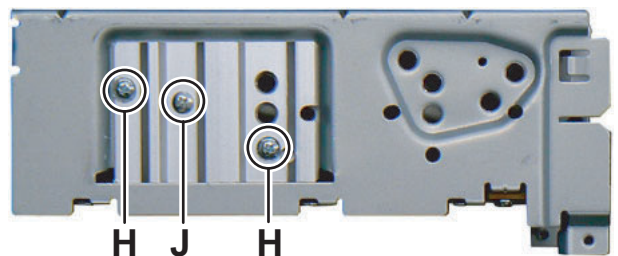

Fig.4
3.1.3 Removing the Electric unit (See Fig.4, 5, 6)
- (1) Remove the 2 screws **H** and one screw **J** attaching the Side plate. (See Fig.4)